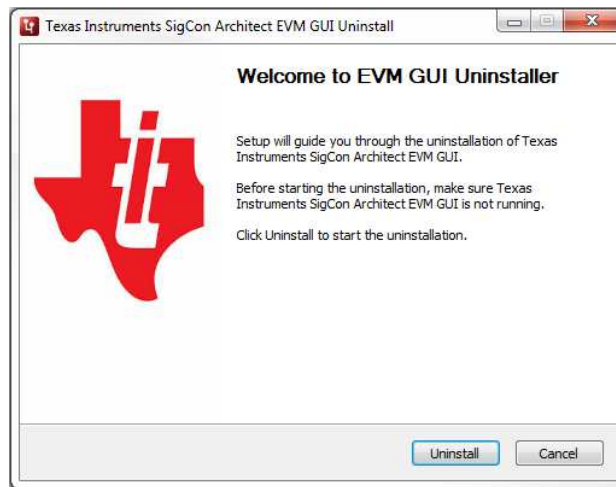

Figure 17. SigCon Architect Uninstaller
- The SigCon Architect Uninstaller will appear as shown in Figure 17. Select “Uninstall” to continue.